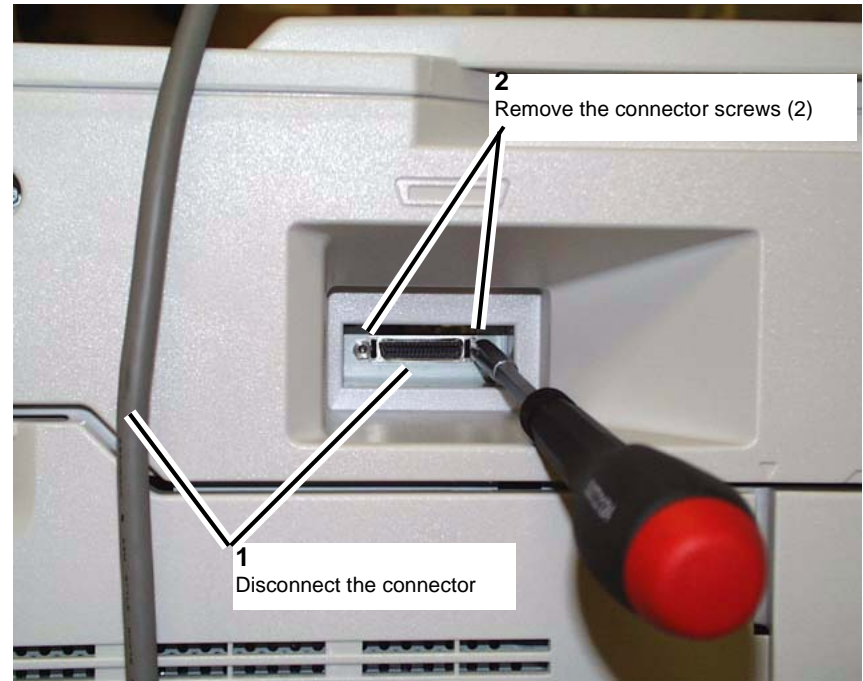

Figure 1 Disconnect the connector and remove the screws (2)
3. Disconnect the connector and remove the connector screws (2). (Figure 1)